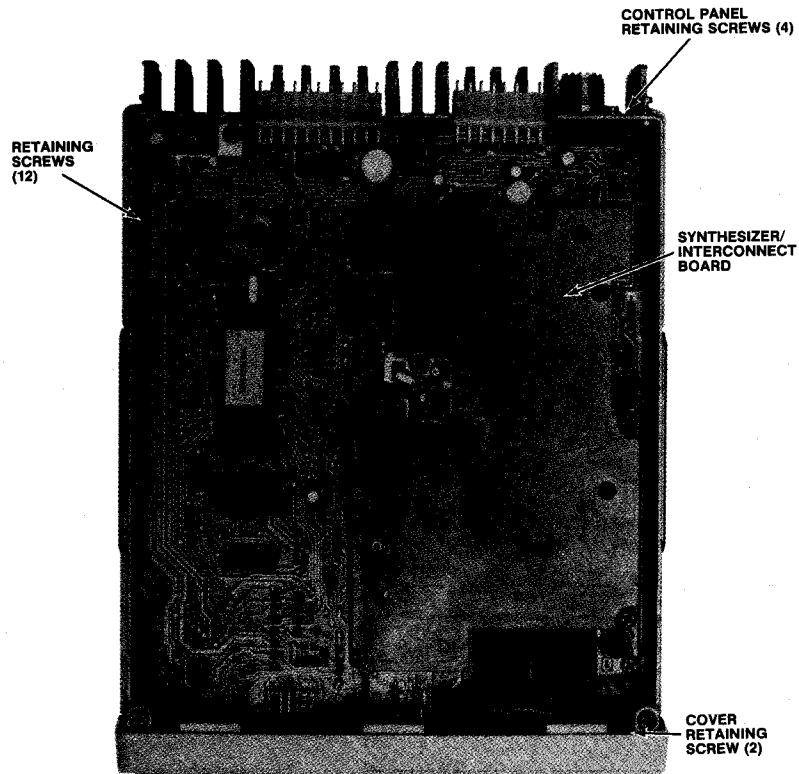

Figure 2 - Synthesizer/Interconnect Board Removal
2. Remove the four screws in the front control panel and remove panel. See Figure 2. Also, remove screws securing display board (if present) to front panel.